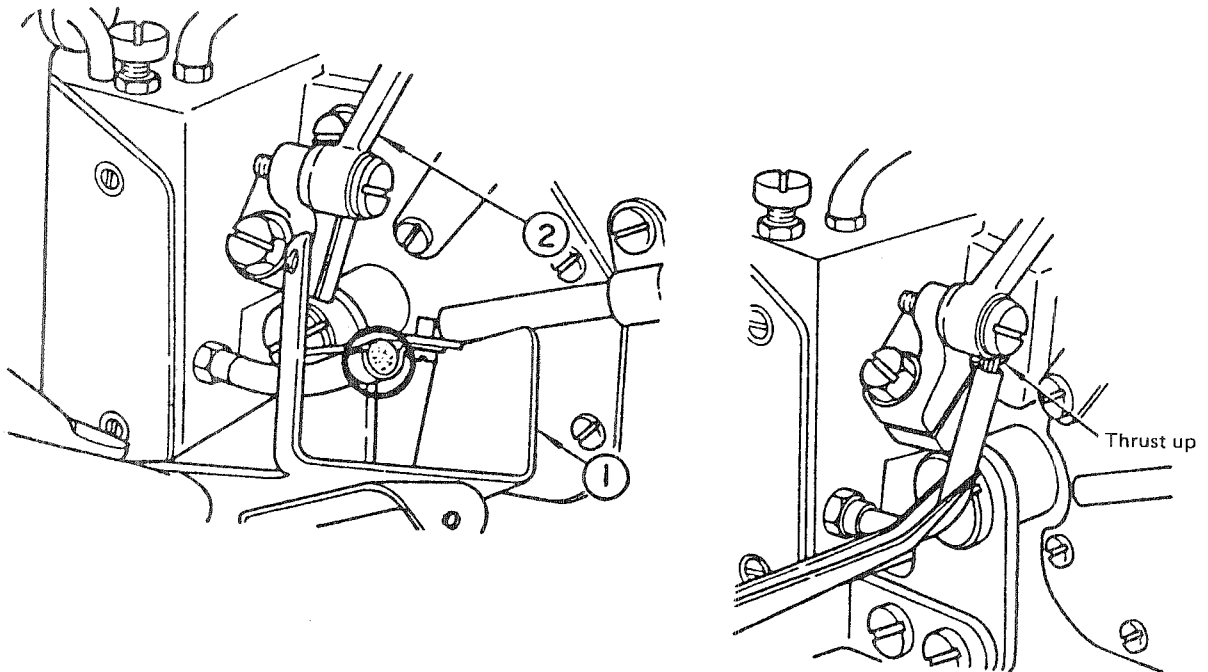

Fig. 5
(2) Replacement of top feed link cover (See Fig. 5)